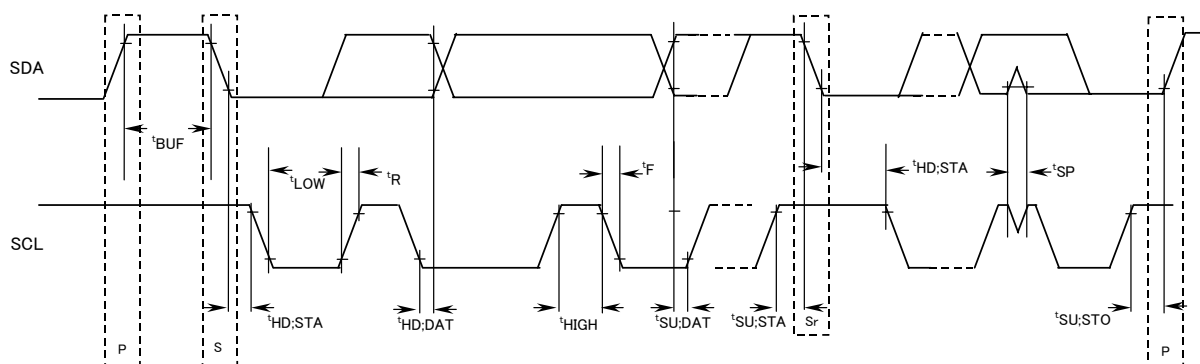

Fig.1 Definition of timing on the I²C-bus
3) Note that the maximum tF for the SDA and SCL bus lines quoted in Table 1 (300ns) is longer than the specified maximum tOF for the output stages (250ns). This allows series protection resistors (Rs) to be connected between the SDA/SCL pins and the SDA/SCL bus lines as shown in Fig. 1 without exceeding the maximum specified tF.